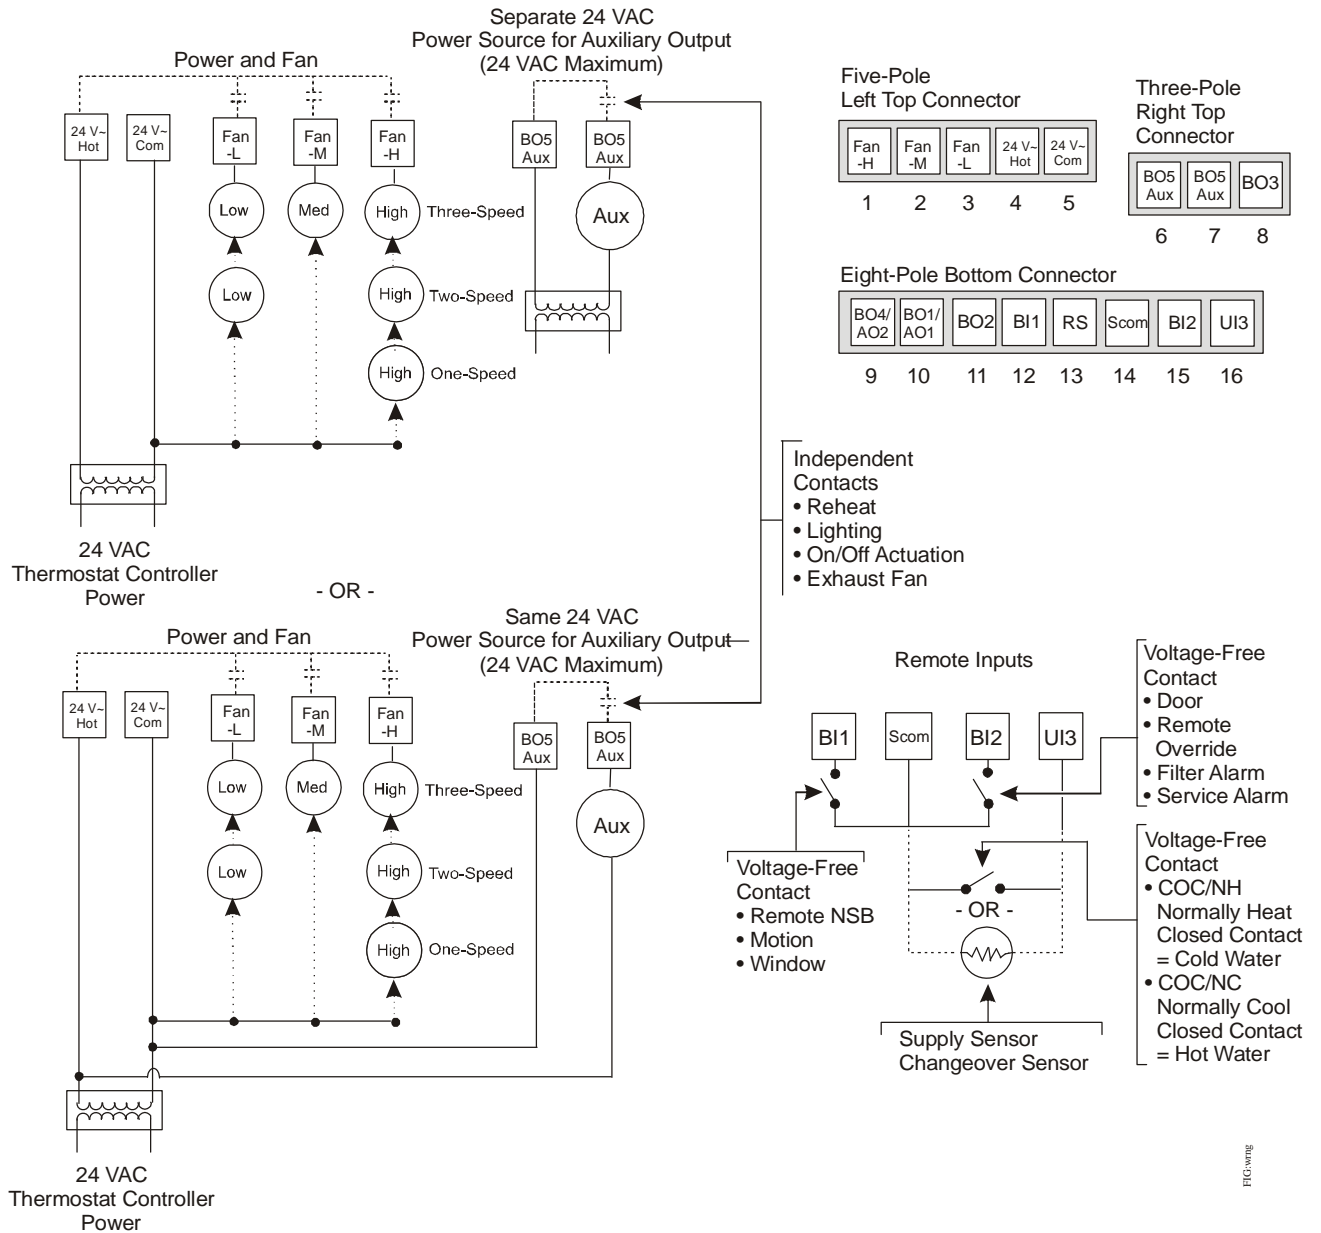
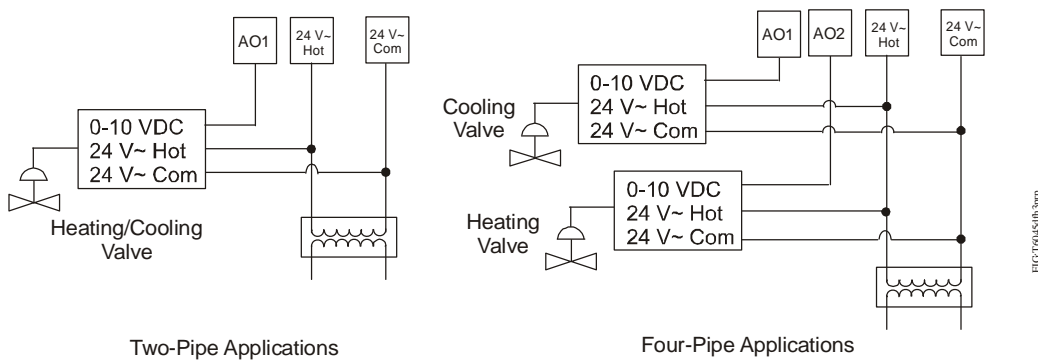

Figure 5: Wiring the T60xDFH-4 or T60xDFH-4+PIR Series Thermostat Controller (See Table 1.)
Figure 9: Wiring T604DFH-4 and T605DFH-4 Thermostat Controllers for Proportional Control
1. Strip the ends of each wire a 1/4 in. (6 mm) and connect them to the appropriate screw terminals as indicated in Table 1 and Figure 5 through Figure 9.
Table 1: Terminal Identification (See Figure 5.)